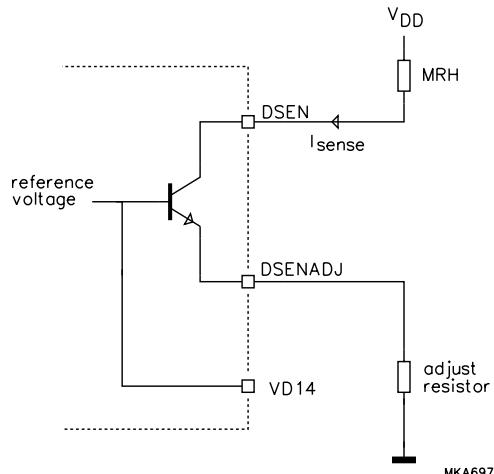

Fig.9 Principle of the sense current source.
- The output current can be adjusted by connecting a resistor between the adjust pin and V_{SS} . A 68Ω resistor will produce 10 mA (typ.) through the MRHs (see Fig.9).
greater than the measured DC level at pin 3 in order to shut-off the emitter follower. The impedance of the sense current source outputs can be measured from the difference in sense current when applying different voltages to the sense current output. This voltage can vary from 1.5 V to V_{DD} . Figure 9 illustrates the principle of the sense current sources.